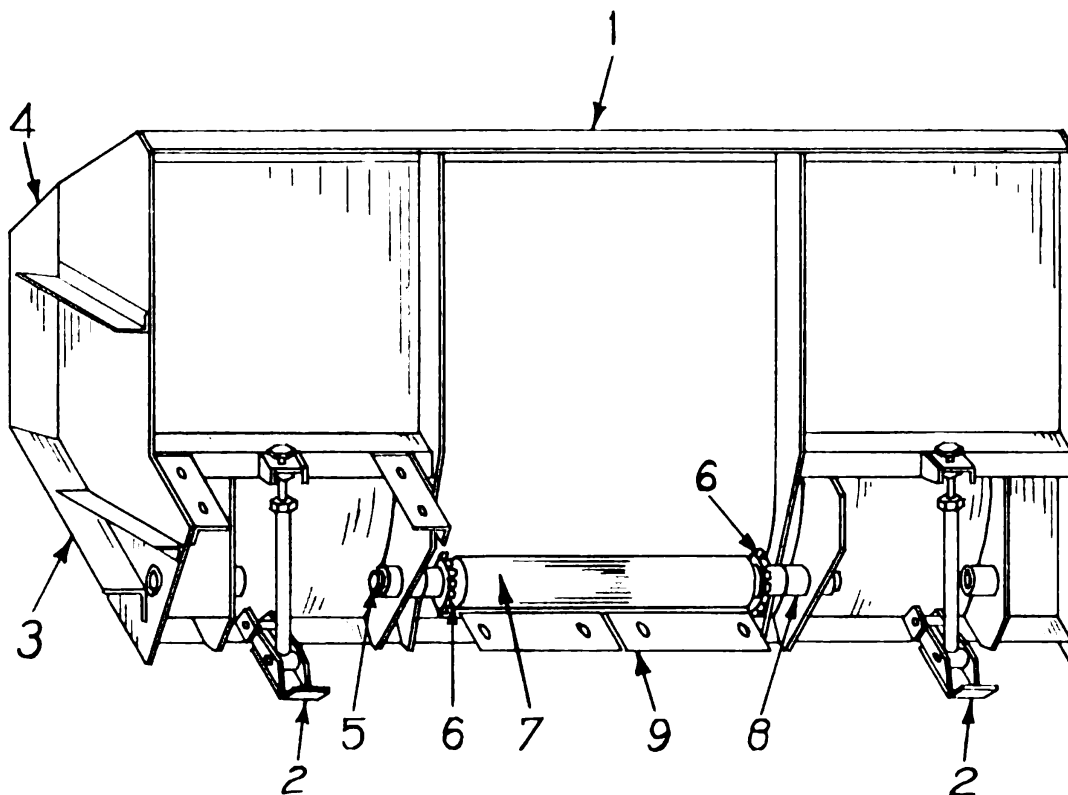

Figure 27. Scrapper assembly (rear view).
(40) Scrapper
The scrapper assembly (1) figure 27 is located at the foot end of the elevating conveyor, directly behind the feeding spirals. Its function is that of obtaining a uniform, clean pickup of snow.
(41) Shoes
The scrapper (1) figure 27 is equipped with two adjustable shoes (2), one located on either side and to the rear of the scrapper. These shoes carry the weight of the conveyor foot end, and ride the surface of the pavement.
(42) Curb Guard
The curb guard (3) figure 27 is a heavy bar fixed to either side of scraper. The purpose of these are to gauge distance when operating next to a curb. Secondly, the curb guard protects the scraper wings (4) as it holds the wings a fixed distance from the curb. When curb guard is running along curb machine should not be forced toward curb so guard rubs heavily against curb.
(43) Footshaft
The footshaft (5) figure 27 is assembled in the feeding end of conveyor frame. The belt chain sprockets (6) and belt pulley (7) are assembled on this shaft. Both the pulley and sprockets revolve freely on the shaft. The foot shaft is stationary and is held in solid bearings (8) with nut locked set screws on both sides of conveyor frame. This shaft may be removed from the tail pulley through holes provided for this purpose in the push arms and scraper side plates.